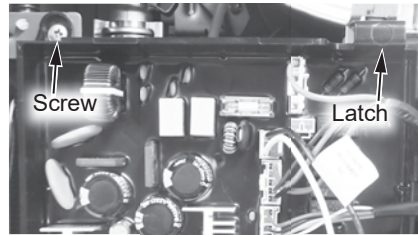

Figure 236 - Control board location
- 12 Locate the two (2) screws at the bottom of the cabinet cover. Use a Phillips screwdriver to remove the screws. Place screws aside in a safe place for reinstallation.
- 14 Locate the screw securing the control board panel. Use a Phillips screwdriver to remove the screw and place it aside in a safe place for reinstallation. See Figure 236.